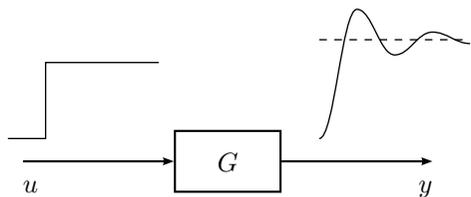

Figure 2.8a
2.8 Consider a system described by the model $Y(s) = G(s)U(s)$ as shown in Figure 2.8a. Given $G(s)$, how is the step response computed? How can the step response be determined using experiments?